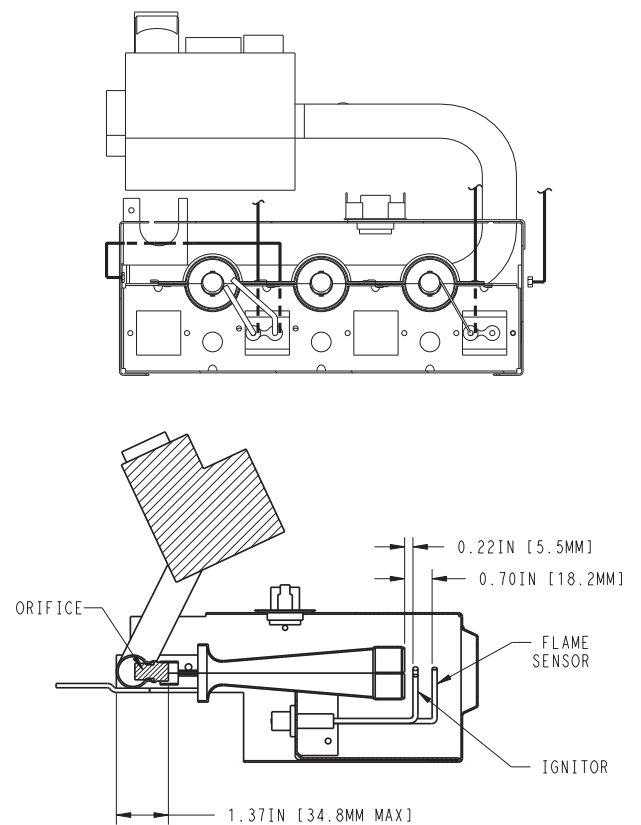

Fig. 4 - Two-Stage Igniter, Flame Sensor, Orifice/Main Burner Relationship
13. Remove the natural gas orifices from the manifold using a 9/16 in. wrench and install the correct propane gas orifices in the manifold (See Table 4 to select correct orifice size based on rated input. See Fig. 4 and 7 for orifice installation).
23. Verify igniter, flame sensor, orifice/main burner relationship prior to completing conversion. (See Fig. 4.) Partially slide burner rack assembly into unit.